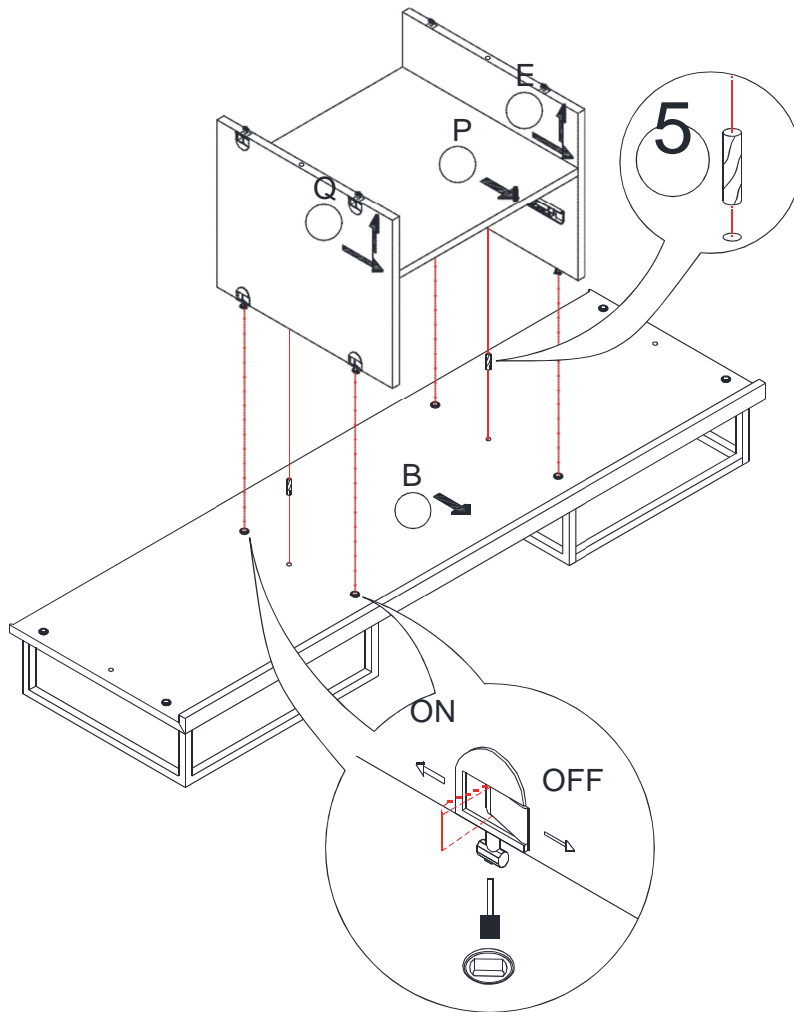

Figure 3
Assemble the panels (E), (Q) and (P) with bottom panel (B) using wood dowels (5) as shown in figure 3.
Switch the lock as shown in figure 3.